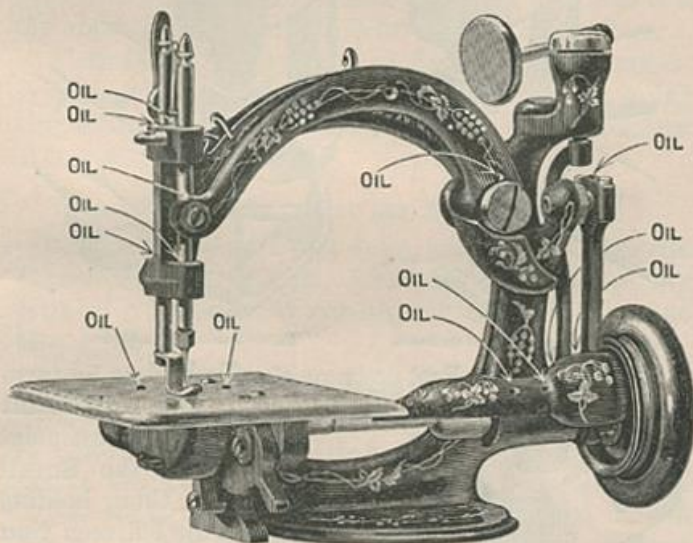

Fig. 4.
*Oil all places on Machine as indicated above in Fig. 4.*